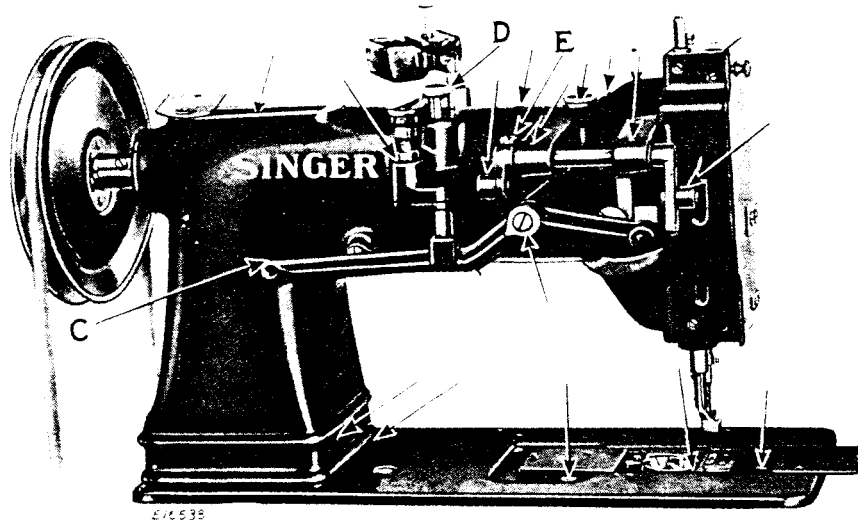
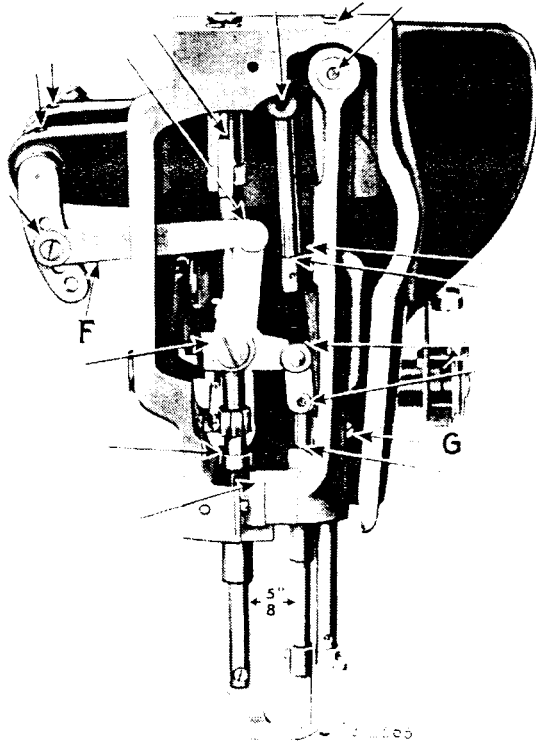

Fig. 3. Rear View of Machine
Fig. 4. End View of Machine Showing Oiling Points
To increase the pressure, turn the thumb screw (D, Fig. 3) at the back of the machine, downwardly. To decrease the pressure, turn this thumb screw upwardly.
In case the needle bar is not correctly set, loosen the needle bar connecting stud pinch screw (G, Fig. 4) and place the needle bar in correct position as directed above, then retighten the screw (G).
The distance between the vibrating presser bar and lifting presser bar, after adjusting the feed eccentric (B, Fig. 17) so that there is no feed movement of the needle bar, should be $\frac{5}{8}$ inch as shown in Fig. 4.
If the distance between the vibrating presser bar and the lifting presser bar is more or less, insert a screwdriver in the hole at (C, Fig. 3) at the rear of the machine and loosen the clamp screw which holds the needle bar rock frame rock shaft. While this screw is loose, the needle bar frame can be moved forward or backward to the required distance. A piece of metal of the correct width may be used to determine the correct distance. When making this adjustment be sure to see that the feed eccentric (B, Fig. 17) is set so that there is no feeding movement of the needle bar. When the adjustment has been made, securely tighten the clamp screw at C.
The height of lift of the pressers is adjustable by moving the link (F, Fig. 4) to any of the four holes in the rock shaft crank. The maximum lift is secured with the link in the bottom hole. The amount of lift of the vibrating and lifting presser feet should be regulated according to the thickness of material being sewn. The feet should lift just high enough to clear the material. As a rule, the vibrating and lifting pressers should lift an equal height, but some grades of work may require that they lift an unequal height. To change the relative lift of the presser feet, loosen the screw (E, Fig. 3) at the back of the machine and move the vibrating presser bar upward or downward as required, then securely tighten the screw (E).